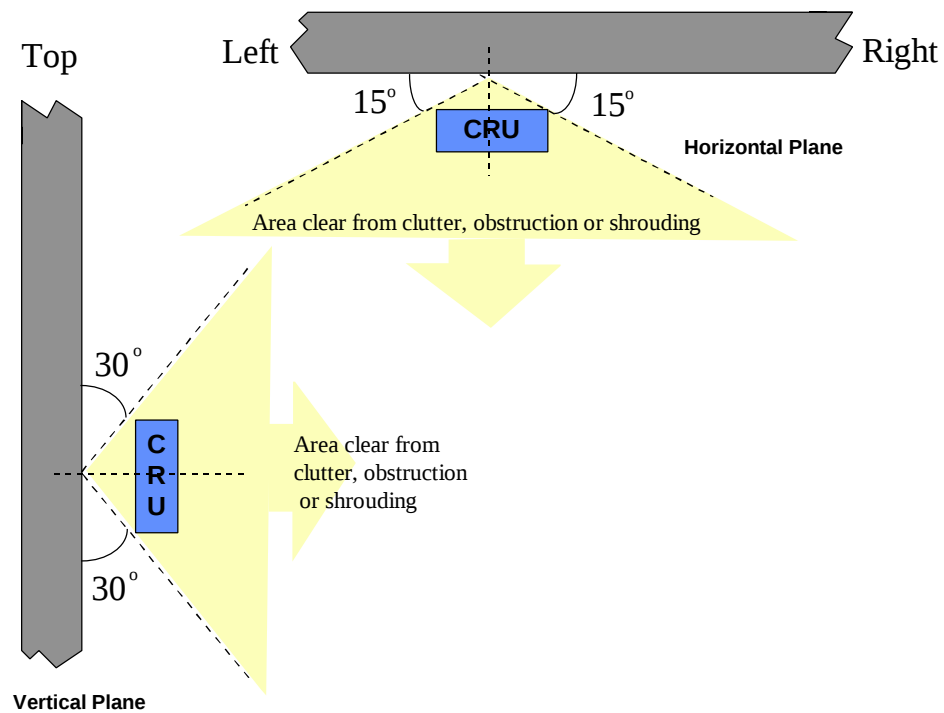

Figure 2. CRU Positioning
- Avoid obstructions such as adjacent walls or overhanging roof eaves, within 15° in the horizontal plane (see figure 1) and 30° in the vertical plane (see figure 2).